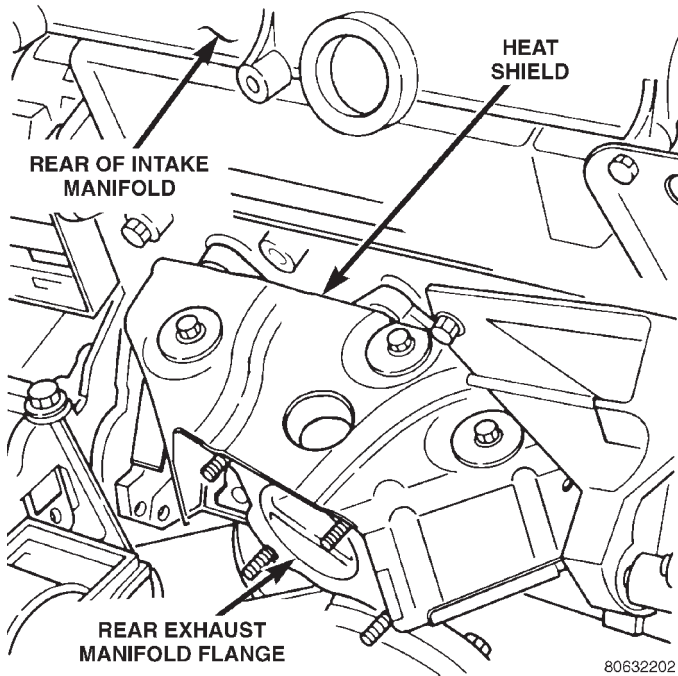

Fig. 40 Rear Exhaust Manifold—2.5L Engine
- (3) Remove heat shield from rear exhaust manifold (Fig. 40).